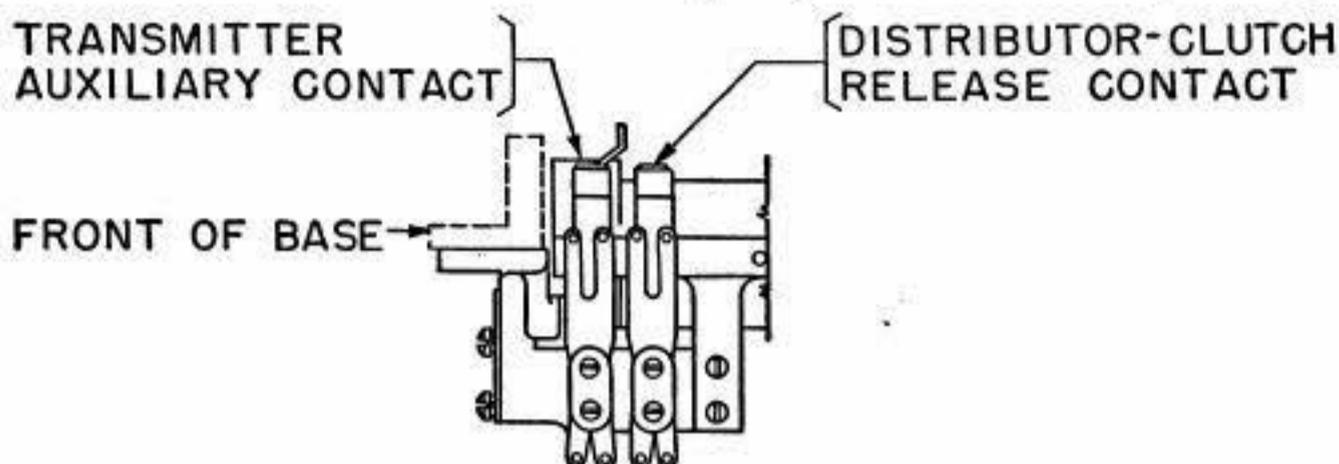

Fig. 65
- (1) To gauge, trip the sensing clutch and rotate the motor by hand until the contact lever operates the long-contact spring. Hook the pull end of the scale behind the short-contact spring at the contact and pull horizontally to the right.
(2) To adjust, bend either or both sides of the short-contact spring making sure to maintain a slight clearance between the springs and their stops. **Fig. 65**